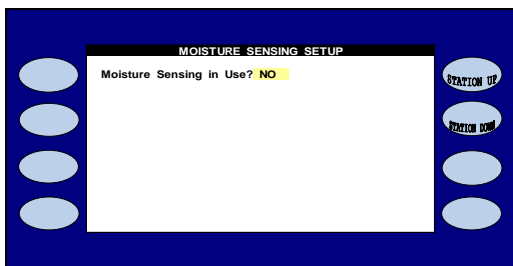

Figure 3
3. Press the **MOISTURE** Menu key. This will bring up the **MOISTURE SENSING SETUP** screen (Figure 3).